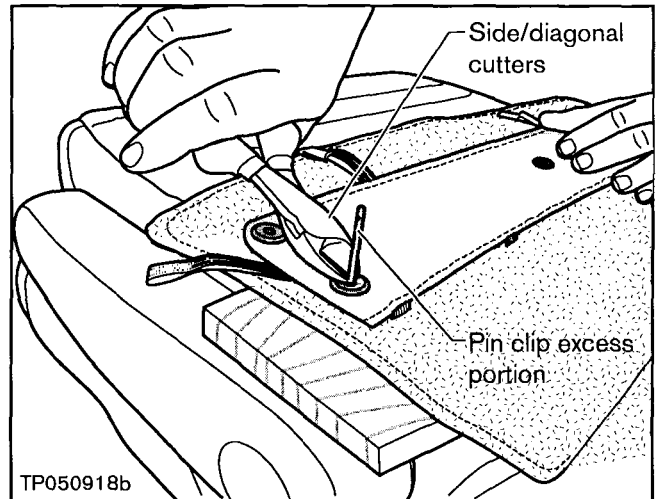

Figure 18
- h. Cut off the excess portion of the pin clips (see Figure 18).